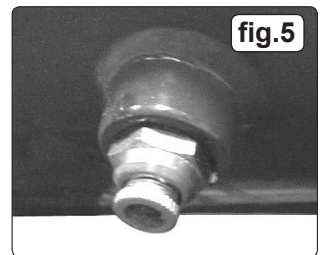

fig.5
- 5.3. Ensure that the tank drain valve is closed (fig.5).
- 5.14. The tank must now be drained. This will release the air left in the tank and drain away condensation that may have formed within the tank. Choose a suitable location for this operation and/or make provision to collect the condensation. **Wear ear and eye protection.** Open the tank drain valve (See fig.5) slowly allowing air and moisture to bleed from the tank. After bleeding close the drain valve to prevent debris building up in the valve.